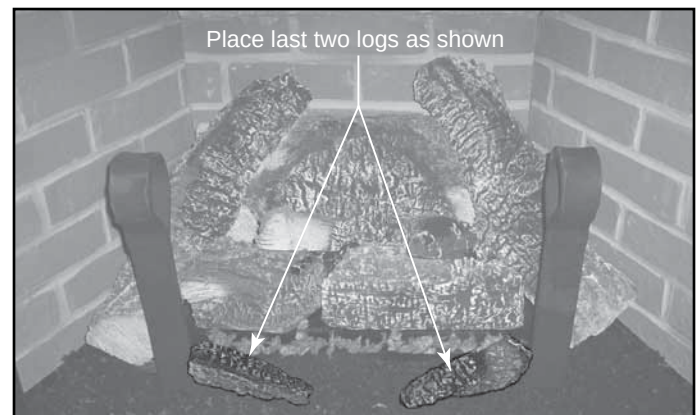

Figure 15.19 Install Logs #4061-178 and #4061-179
- Rub rockwool over the burnt look on the two front logs (as indicated in Figure 15.19). The particles left behind will give the logs a glowing embers look.
- Place the last two logs in the lava rock and against the andirons as shown in Figure 15.19.